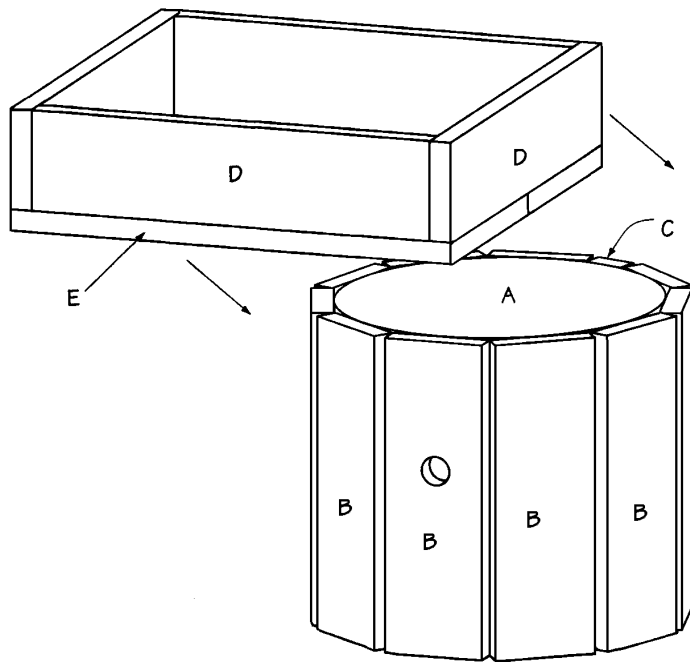

Figure 4
6. Turn the base assembly upside down and center it over the house assembly, as shown in *Figure 4*. Apply glue to the meeting surfaces, and screw through the both bases (E) into the top/bottom (A), using five or six 1-1/4-inch screws.